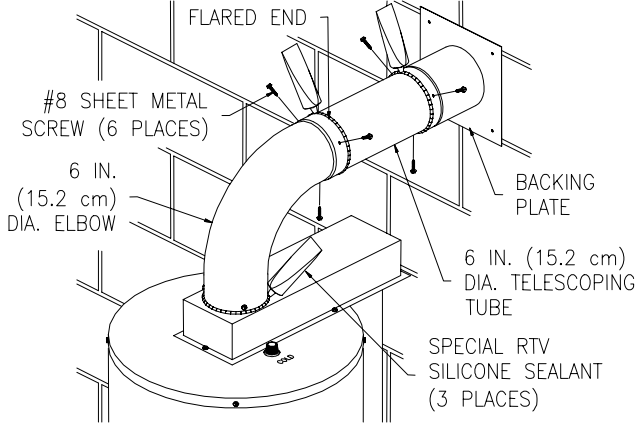

Figure 15.
- From inside the building, slide the backing plate over the six (6) inch (15.2 cm) diameter telescopic tube until it is flush with the wall. Adjust the length of the six (6) inch (15.2 cm) diameter telescopic tube and insert the end into the flared end of the six (6) inch (15.2 cm) diameter elbow one (1) inch (2.5 cm) (or until seated). Drill three (3) 1/8 inch (3.2 mm) diameter holes, 120° apart, through the six (6) inch (15.2 cm) diameter elbow into the six (6) inch (15.2 cm) diameter telescopic tube and through the tubes where the small and large sections overlap. Fasten with three (3) #8 sheet metal screws (supplied). Using the supplied special RTV silicone sealant, apply a sufficient amount to seal all joints (See Figure 15).